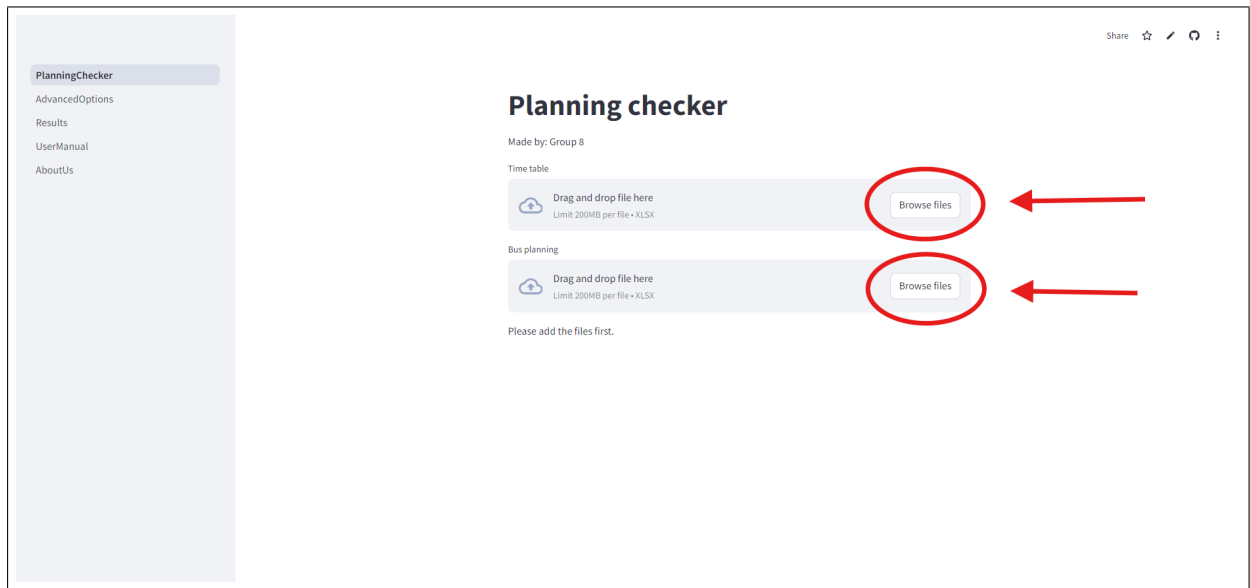

Figure 1: *The home screen with the upload buttons highlighted.*
2. On the ‘PlanningChecker’ page, click on the ‘Browse files’ button and upload the correct file (see figure 1).